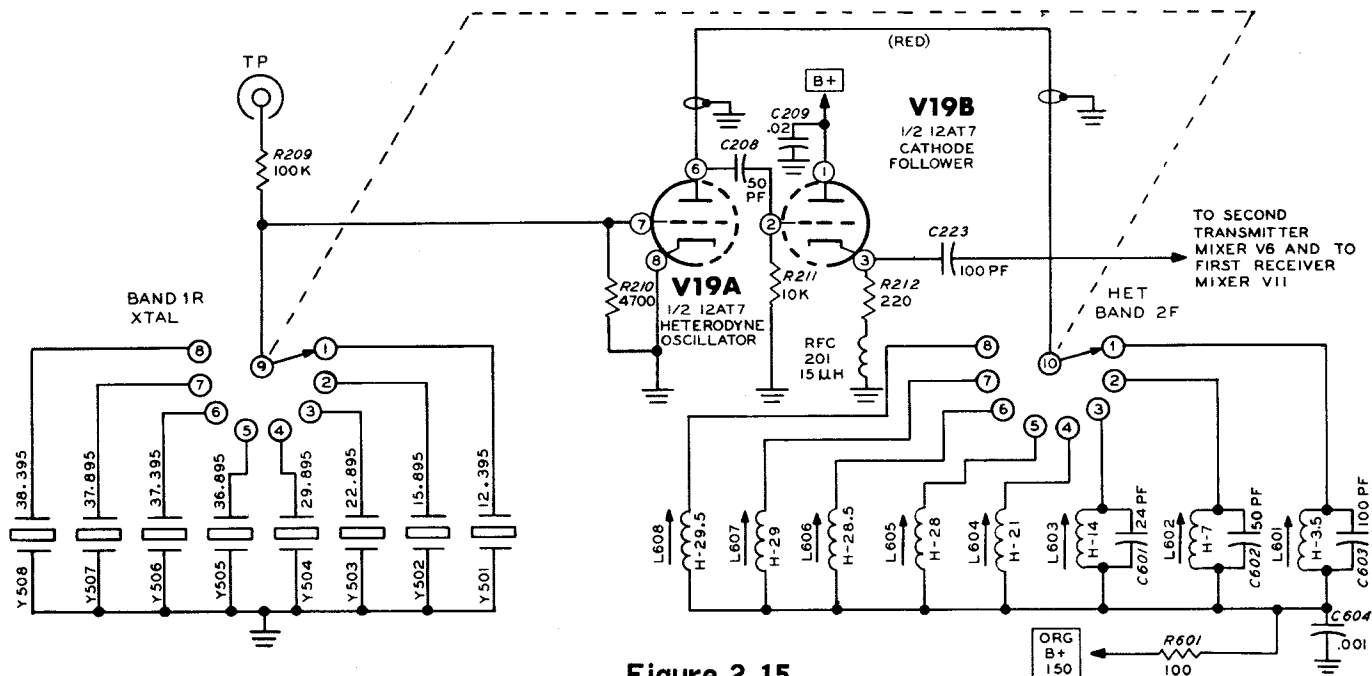

Figure 2-15
**Heterodyne Oscillator and Cathode Follower (Figure 2-15)**